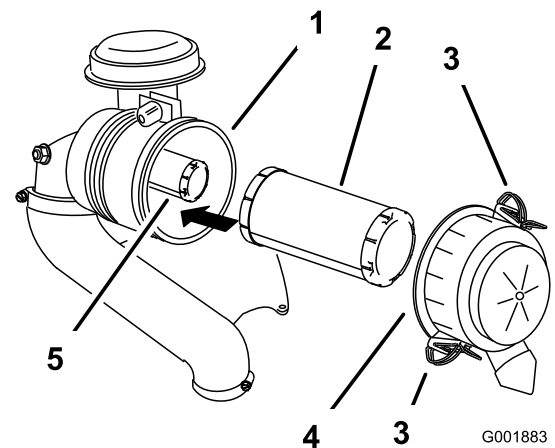

Figure 40
3. Release the latches on the air cleaner and pull the air-cleaner cover off the air-cleaner body (Figure 40).
5. Gently slide the primary filter out of the air-cleaner body (Figure 40).
2. If you are replacing the inner filter, carefully slide it into the filter body (Figure 40).
- Carefully slide the primary filter over the safety filter (Figure 40).
- Install the air-cleaner cover and secure the latches (Figure 40).